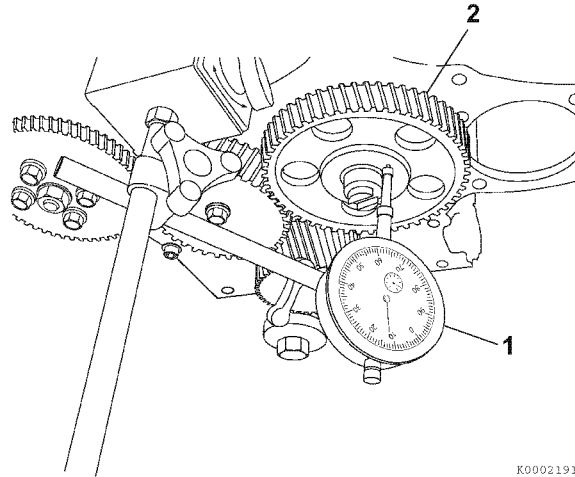

Figure 6-48
- **Method A:** Install a dial indicator (**Figure 6-48, (1)**) on the cylinder block. Move the camshaft and gear (**Figure 6-48, (2)**) in and out to measure the end play. Record the measurement. See *Camshaft* on page 6-6 for the service limit.